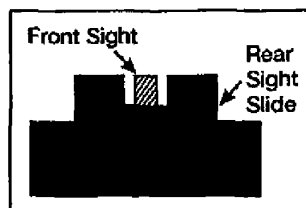

Figure 071-312-3031-1. Sight alignment
- a. Obtain sight alignment by centering the front sight blade in the aperture of the rear sight with the top of the front sight blade even with the top of the rear sight slide (figure 071-312-3031-1).
- b. Obtain a sight picture by centering the target over the front sight blade so it appears to rest on top of the front sight blade and on top of the rear sight slide (figure 071-312-3031-2).